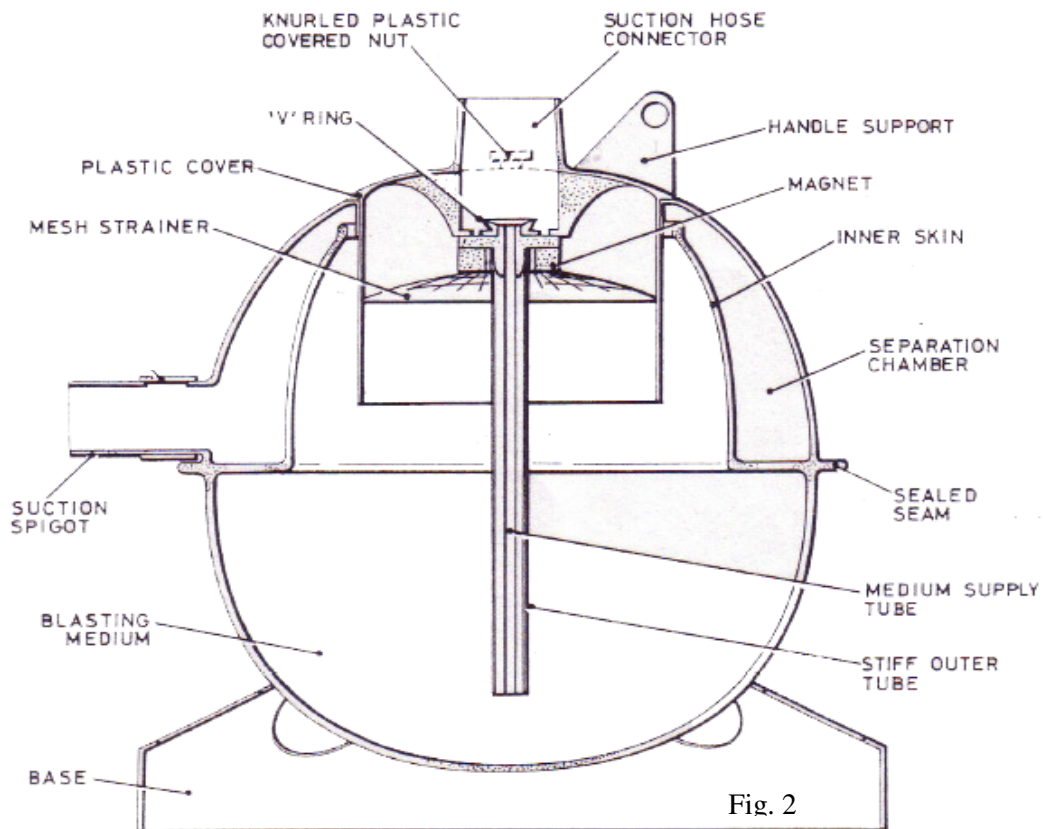

Fig. 2
- 2) A spherical container (see Fig.2) comprising two steel hemispheres joined by a sealed seam is spot welded to a circular steel base. The top hemisphere is a double skin construction. The inner skin, which is shouldered and terminates at the sealed seam, forms the upper section of the blast medium container. The top of the inner skin has a rolled lip, which faces but is separated from the outer skin. The space between the inner and outer skins forms a separation chamber. An orificed spigot provides a suction outlet connection. The bottom hemisphere is single skinned and forms the lower section of the blast medium container.